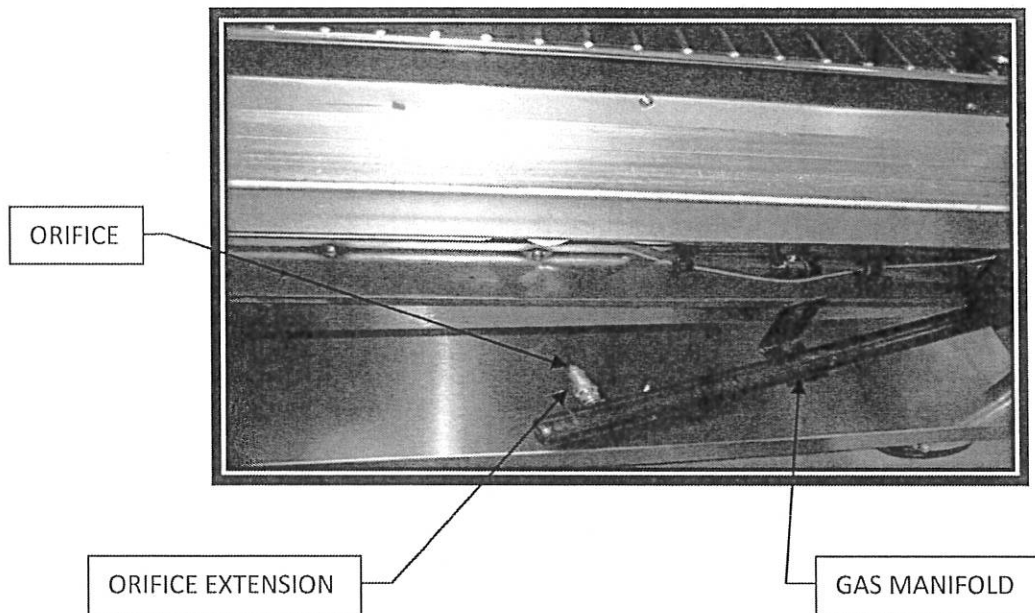

FIGURE 3
3. REMOVE ORIFICE FROM ORIFICE EXTENSION USING A 5/16" SOCKET, OR WRENCH, AS SHOWN IN FIGURE 3. SECURE ORIFICE EXTENSION, USING 1/2" WRENCH, SLIP JOINT PLIERS OR SIMILAR TOOL, WHILE ORIFICE IS BEING REMOVED. REMOVE BRASS ORIFICE ONLY.